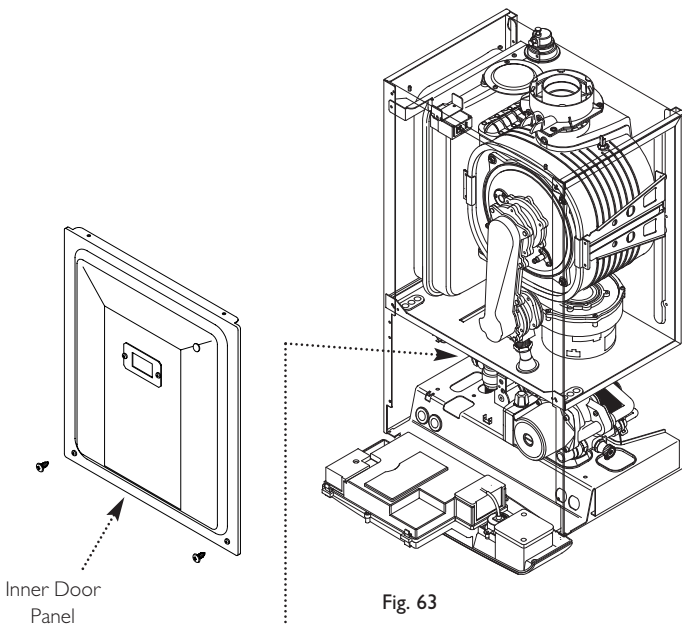

Fig. 63
6. Remove the screws securing the inner door panel. Lift the panel slightly to disengage it from the studs on top of the case (Fig. 63).